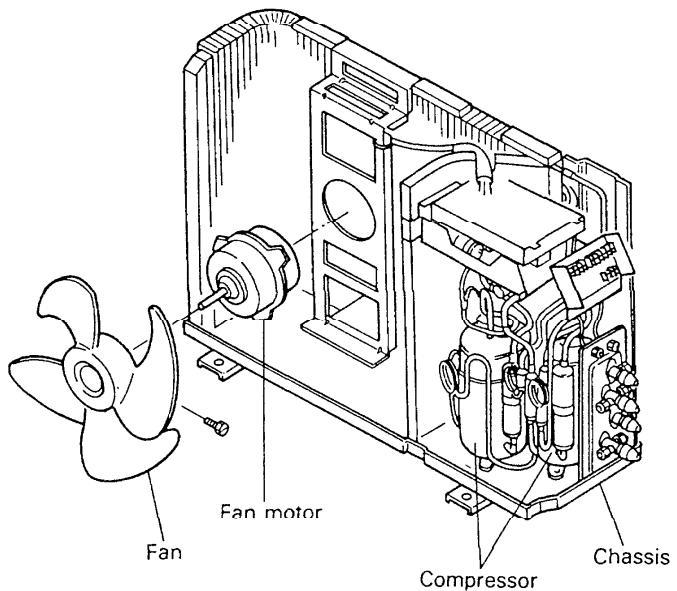

Fig. 8
- (1) Remove the fan by removing the propeller fan fixing screw A using a straight blade screwdriver. Refer to Fig. 8.
- (2) Using a pincher, cut the plastic wire ties fixing the fan motor lead wires connected to fan motor capacitor or other terminals.
- (3) Using a Phillips screwdriver, remove the three fixing screws of the fan motor, then withdraw the fan motor.